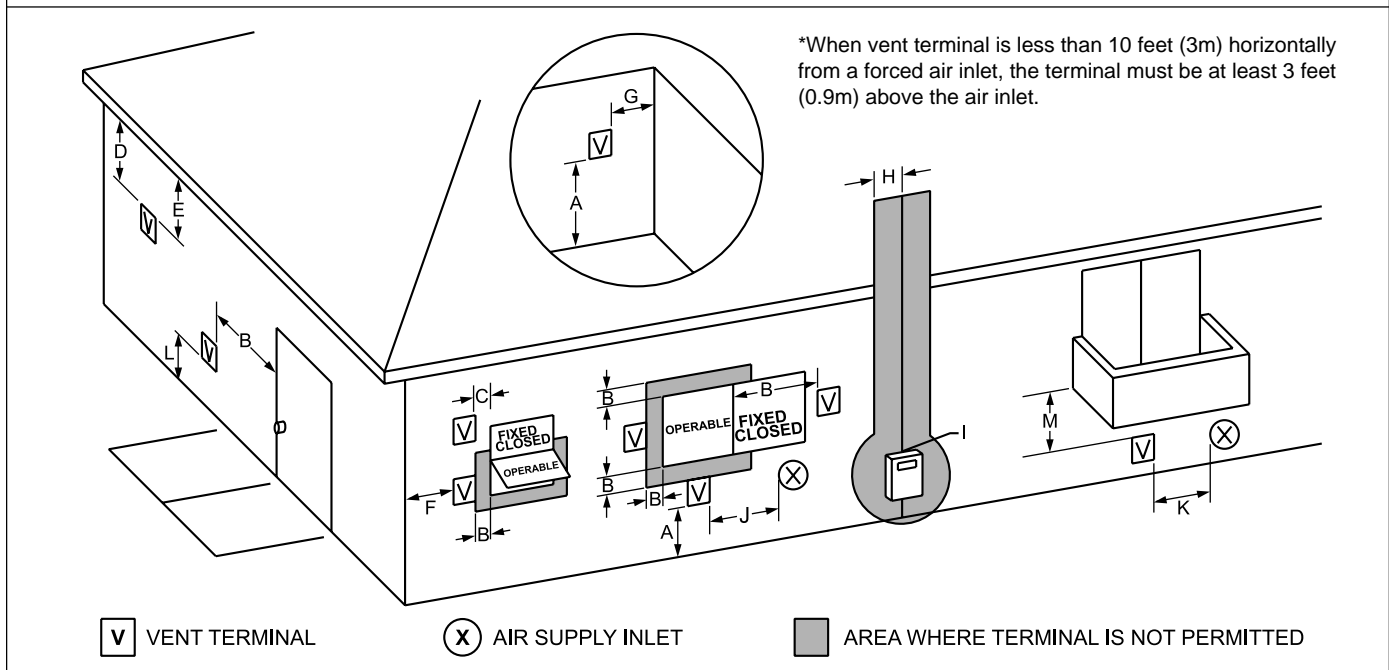

Figure 9. Combustion Air and Vent Through Side Wall.
1. Figure 9 shows the requirements for mechanical vent terminal clearances for the U.S. and Canada.